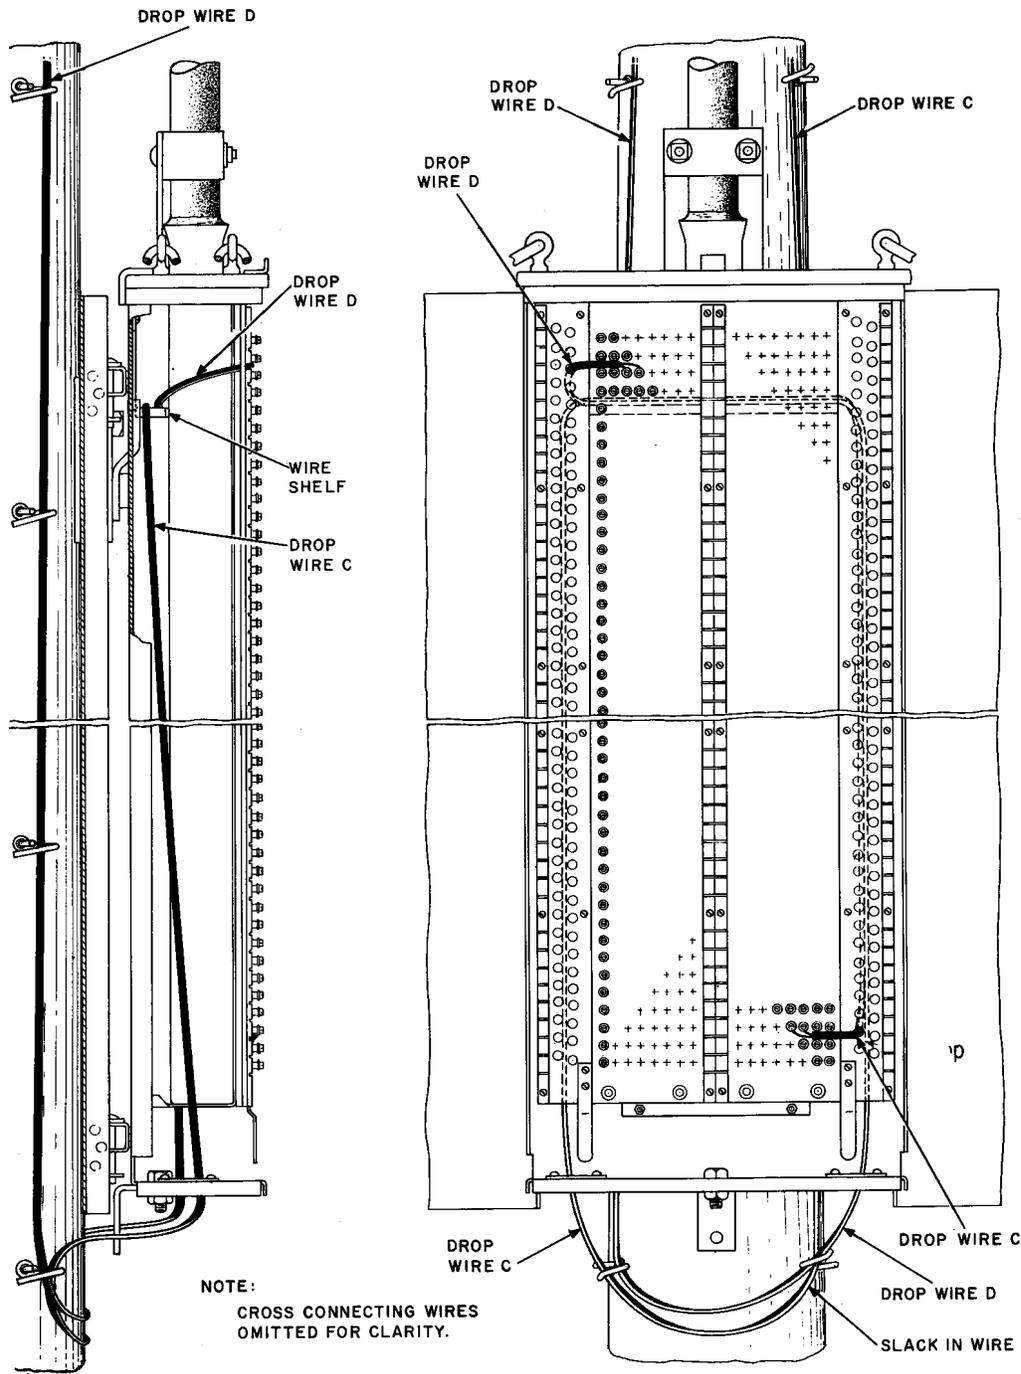

**Fig. 19—Terminating Wires at Terminals**
**3.03** Insert the wire through the wire entrance hole and terminate it on the binding post so that the end of the insulation is about 1/8 inch from the washers. The outer covering of the drop wires should extend at least 1/4 inch inside the terminal housing. See Fig. 19.